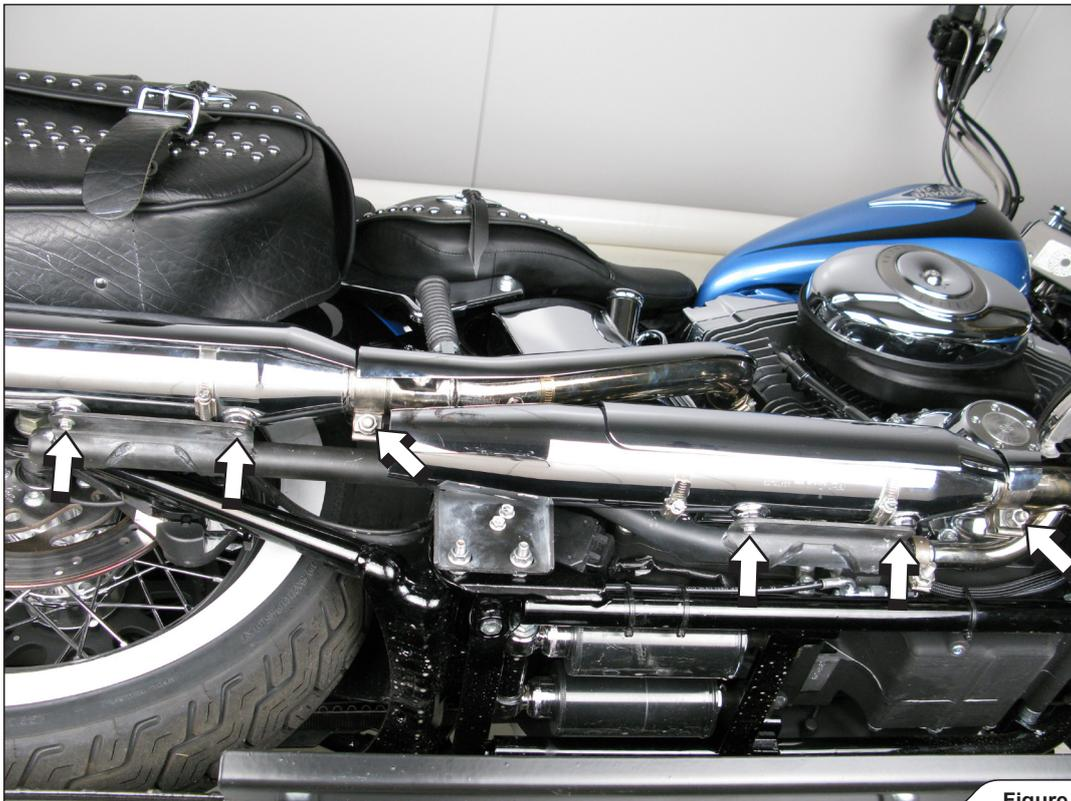

Figure 1
2. Loosen both muffler-header connection clamps, unscrew four mufflers' bracket screws and remove the mufflers off the motorcycle (Figure 1).